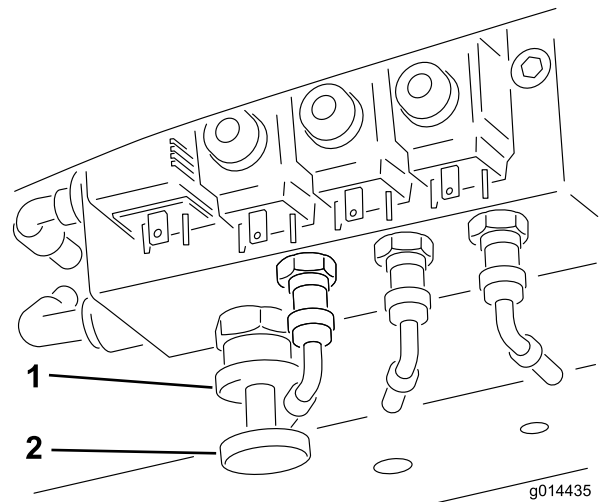

Figure 33
To engage weight transfer: The amount of weight transfer can be varied to suit operating conditions by rotating the weight transfer hand wheel (Figure 33) as follows:
1. Release the valve locknut 1/2 turn counterclockwise and hold (Figure 33).
2. Rotate the valve hand wheel (Figure 33) counterclockwise to reduce weight transfer or clockwise to increase weight transfer.